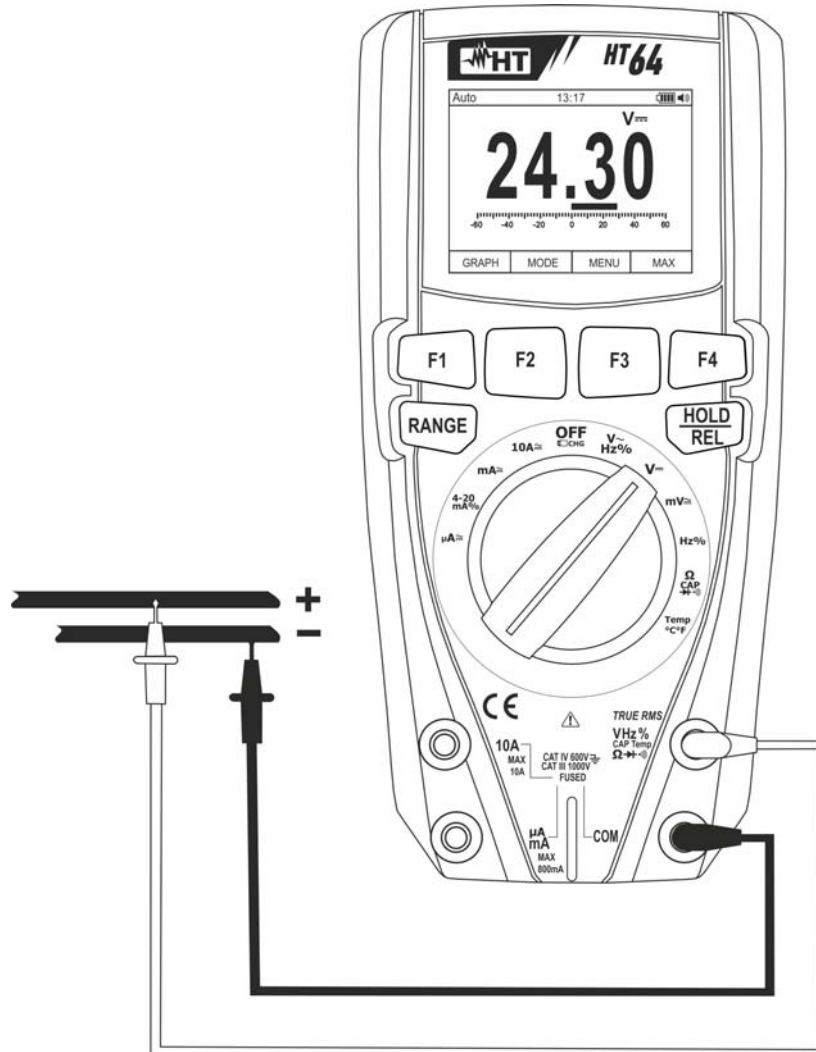

Fig. 22: Use of the instrument for DC voltage measurement
3. Position the red lead and the black lead respectively in the spots with positive and negative potential of the circuit to be measured (see Fig. 22). The display shows the value of voltage.
5. When symbol "-" appears on the instrument's display, it means that voltage has the opposite direction with respect to the connection in Fig. 22.